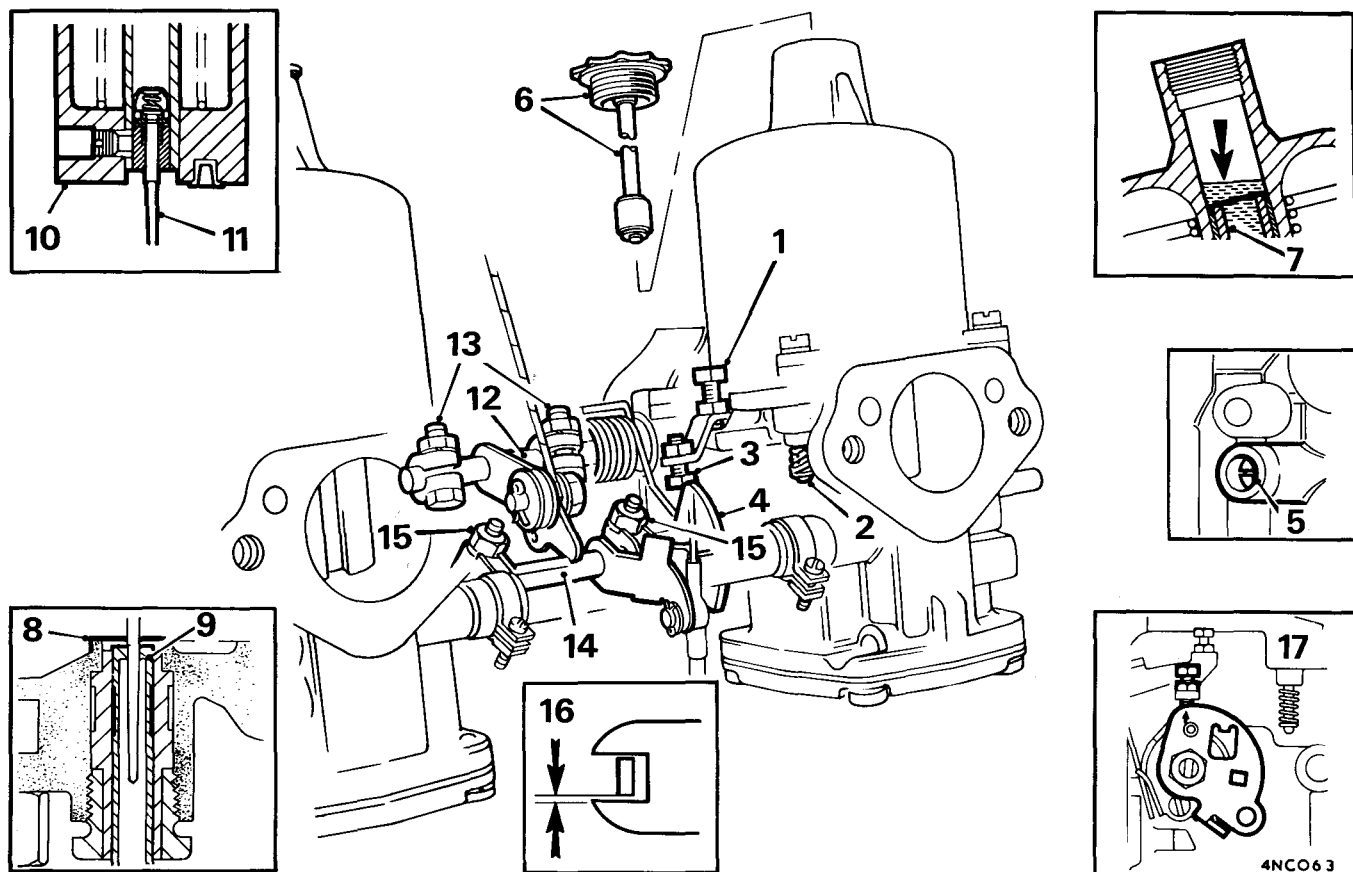

Fig. D.13
11. Unscrew and withdraw the piston dampers from the suction chambers. Top up with new engine oil (preferably S.A.E. 20) until the level is  $\frac{1}{2}$  in. (13 mm.) above the top of each hollow piston rod (see Fig. D.13). Refit the damper assemblies.